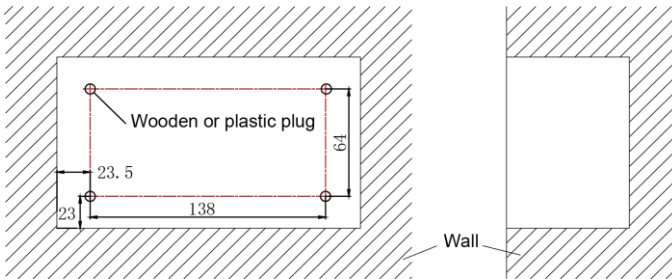

Fig.1.8 Diagram of Wooden or Plastic Plug
- 1) In case that the centralized controller is installed on wall, dig a hole that is the size of $180\text{mm} \times 107\text{mm} \times 62\text{mm}$ and peg 4 wooden or plastic plugs on the wall according to fig.1.8.